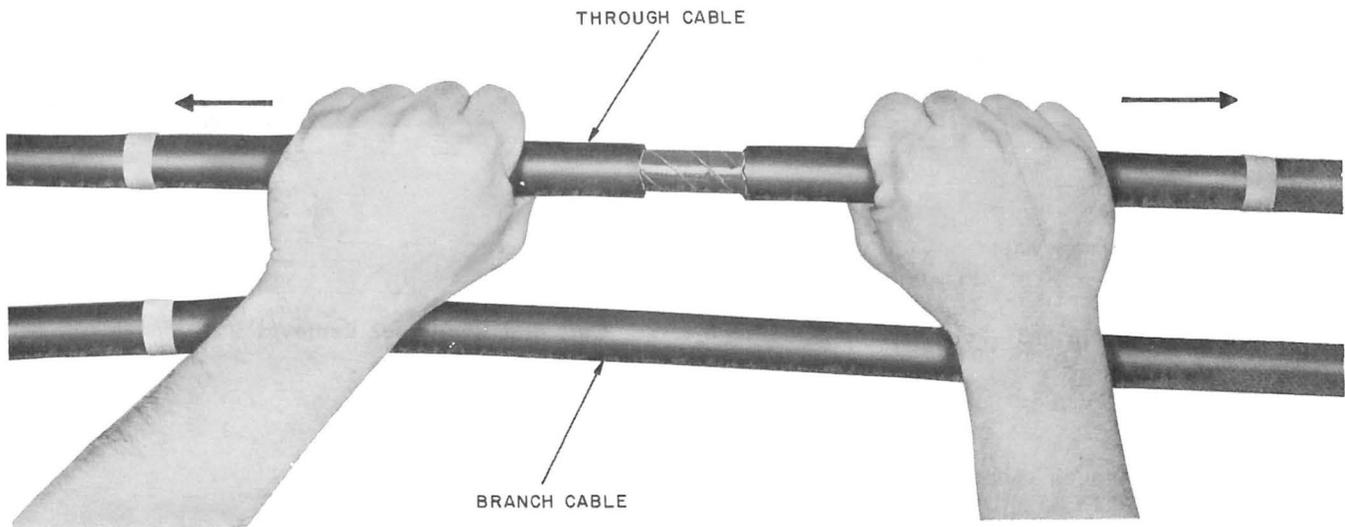

Fig. 15—Removing Stress in Polyethylene Sheath
5.05 Grasp the cable sheath as shown in Fig. 15 and pull in opposite directions to relieve any stress that may be in the polyethylene sheath.